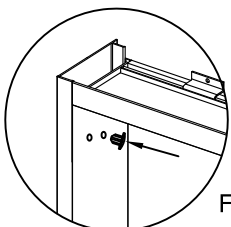

Fig 18
3 .Fill remaining holes with hole plugs ③ (Fig 18). Fill the rest of shelf clip holes with decorative covers ⑬ (Fig 19).